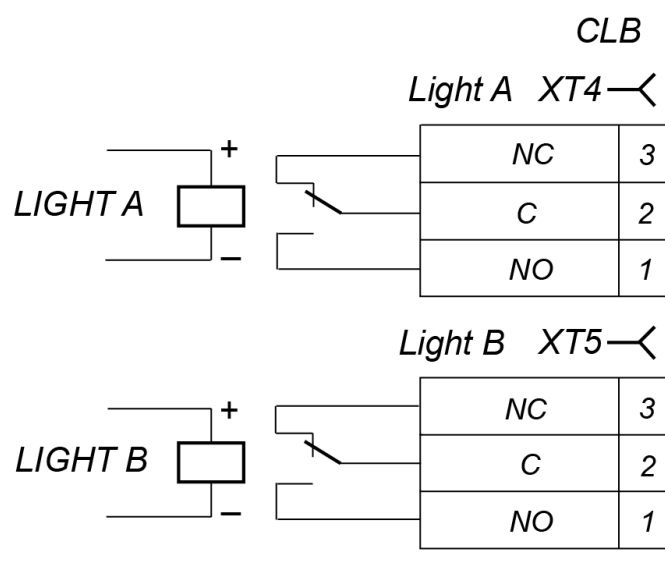

Fig. 8. Output cascades for Light A and Light B
The remote indicators can be connected to the connector blocks "XT4" ("Light A") and "XT5" ("Light B"). At that the "Light A" ("Light B") relay is active (the voltage is supplied to relay coil), when the "Green arrow" pictogram on the indication module (5) corresponding to the set passage direction lights, and it is normalized, when the "Green arrow" pictogram on the indication module (5) does not light. The response/trip of relays "Light A" and "Light B" can be defined according to lighting up/going down of the red indicators, which are installed near the above mentioned relays (see Fig. 3). Output cascades for "Light A" and "Light B" are nonbridging relay contacts (see Fig. 8) with the following signal characteristics: